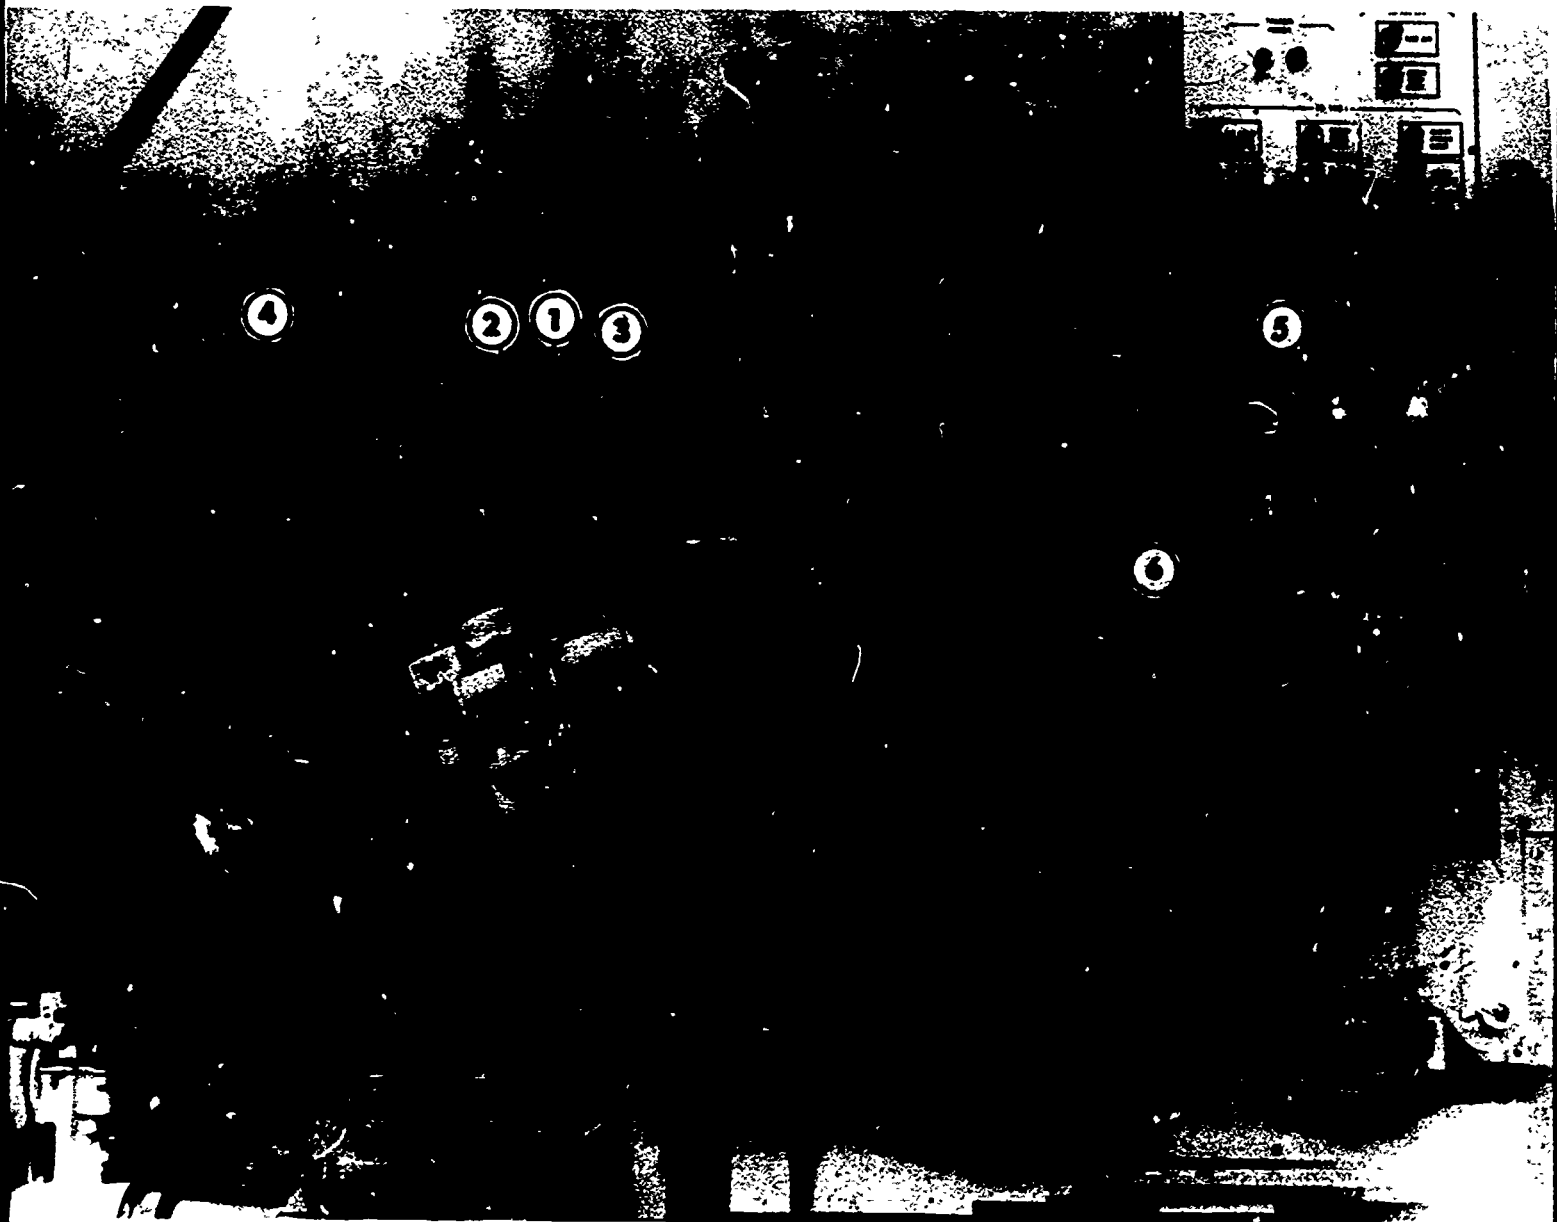

Figure 1.
1. Using the trainer and figure 1, find each of the lettered parts. Write the number that goes with the name in the blank spaces.
Answers, Figure 1.